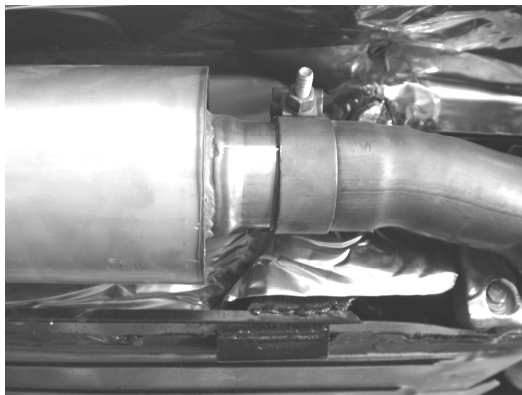

Figure 11
1. Using the original clamps, slide the factory crossover pipe over the outlet of each muffler assembly as shown in figure 11.